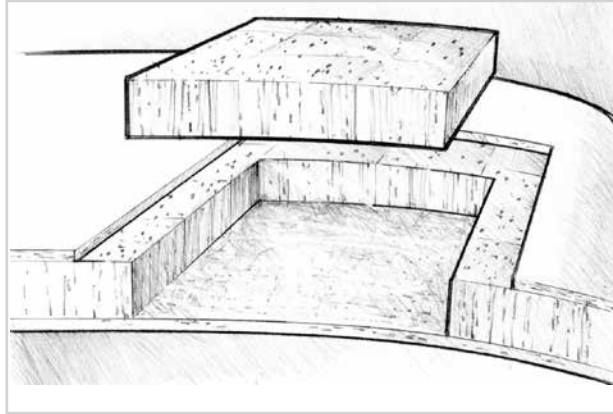

Figure 5-6 Fit a new piece of core material to match the shape, thickness and density of the damaged core material that was removed.
5. Prepare a new piece of core material to match the shape, thickness and density of the core that was removed. Dry fit the piece to be sure the new piece is no higher than the surrounding core (Figure 5-6). When replacing damaged core material, try to purchase the same material used by the builder. If that is impossible, locate a material as close as